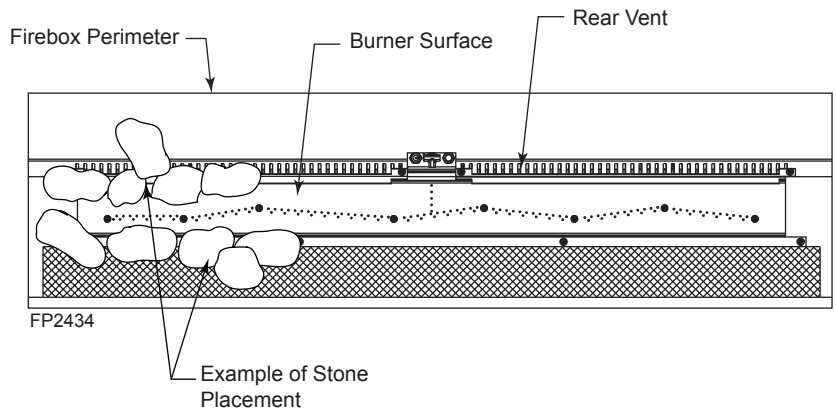

Figure 39 - Stone Placement
1. For best results, spread glass evenly over the entire floor and burner making sure the glass is not too heavy over the burner ports (single layer only). Keep rear vent area open to allow air to circulate under the stones. *Figure 39*
2. Place the stones randomly in front of and behind the burner ports. **CAUTION: Do not allow stones to sit directly on burner ports or in flame.** *Figure 39*